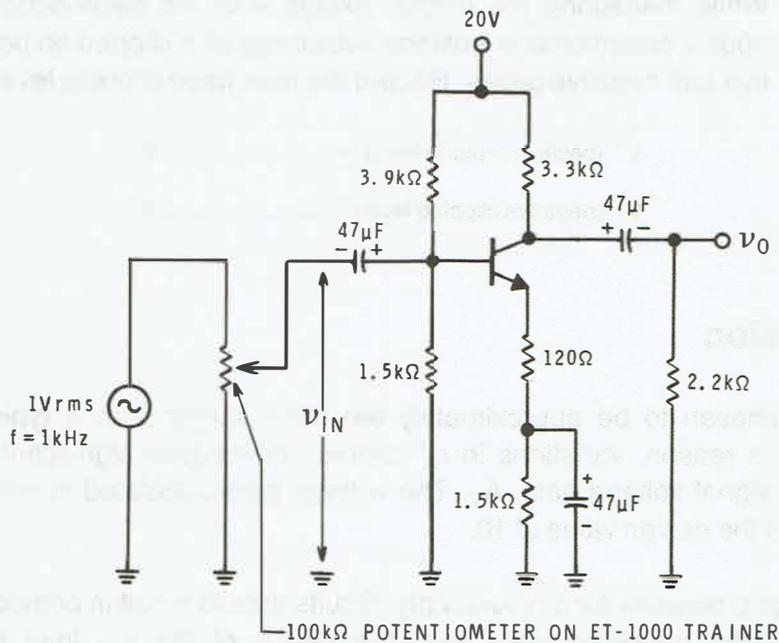

Figure E4-1
13. With the power off, construct the circuit shown in Figure E4-1. Be sure to observe the correct polarity when placing the electrolytic capacitors in the circuit. Also, note that the $100\text{k}\Omega$ potentiometer on the ET-1000 Trainer is used as a variable voltage divider.
Using the component values in Figure E4-1, calculate the minimum and maximum values you would expect for R_{IN} .
26. Adjust the $100k\Omega$ potentiometer shown in Figure E4-1 so that the output voltage is clipped on both the positive and negative peaks. This is exactly what you did previously in step 18.